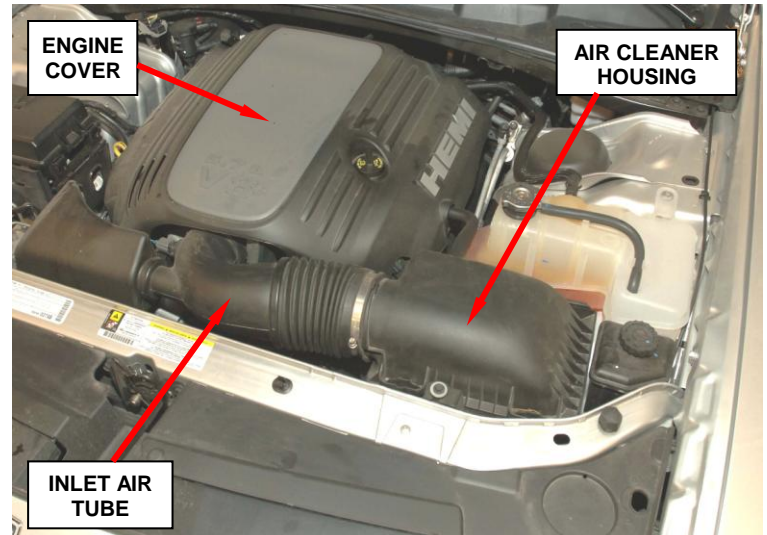

Figure 20 – Air Cleaner Housing and Inlet Tube
3. Remove the engine cover, air cleaner housing and inlet air tube (Figure 20).
28. Install air cleaner housing, inlet air tube and engine cover (Figure 20).